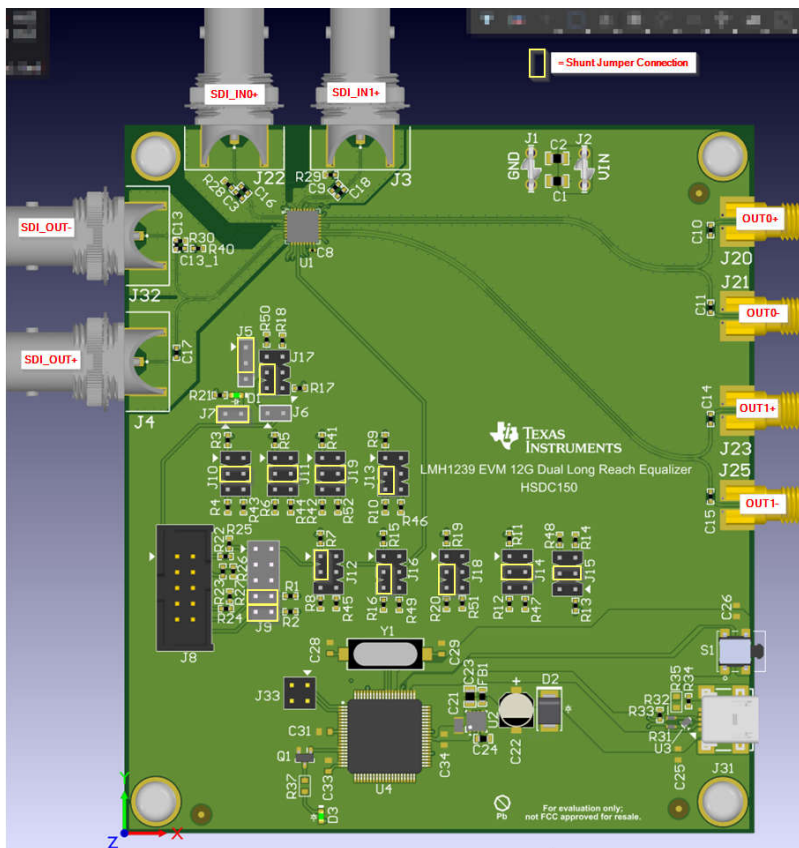
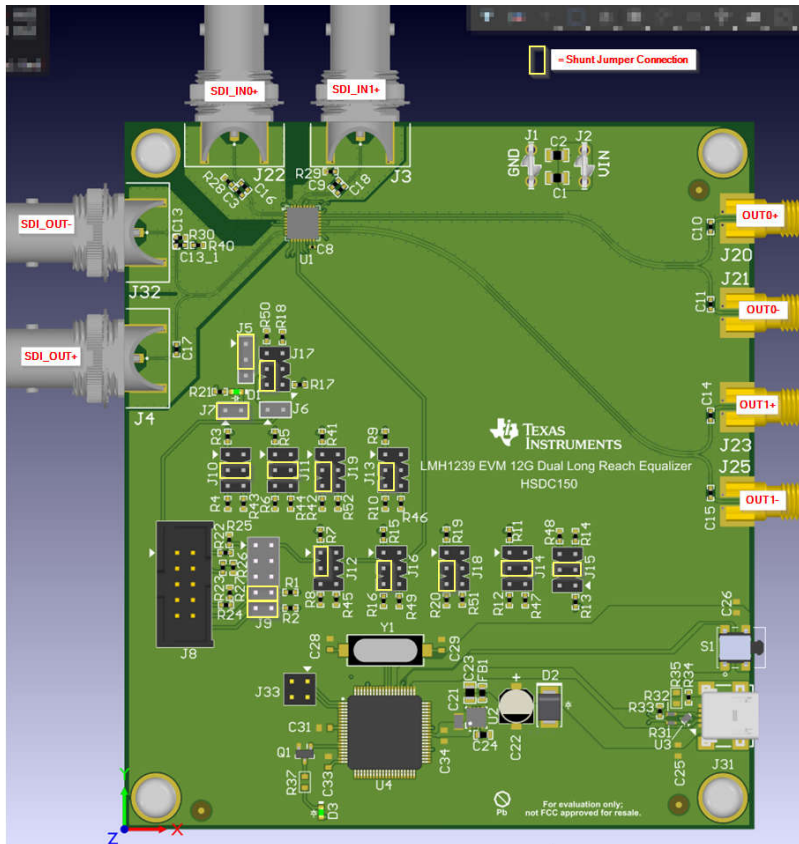

Figure 2-3. LMH1239EVM SDI_OUT Enabled for SMBus Operation
Figure 2-4. LMH1239EVM SDI_OUT and SDI_IN1 Enabled for SMBus Operation
The general procedure for setting up and testing with the LMH1239EVM is as follows. For pin configurations, reference the illustrations in Figure 2-3 and Figure 2-4.
- c. The output signal on J32 can be connected with a 75Ω coax cable to a video pattern analyzer as a loop-through output because the signal is enabled in the shunt jumper settings shown in Figure 2-3.